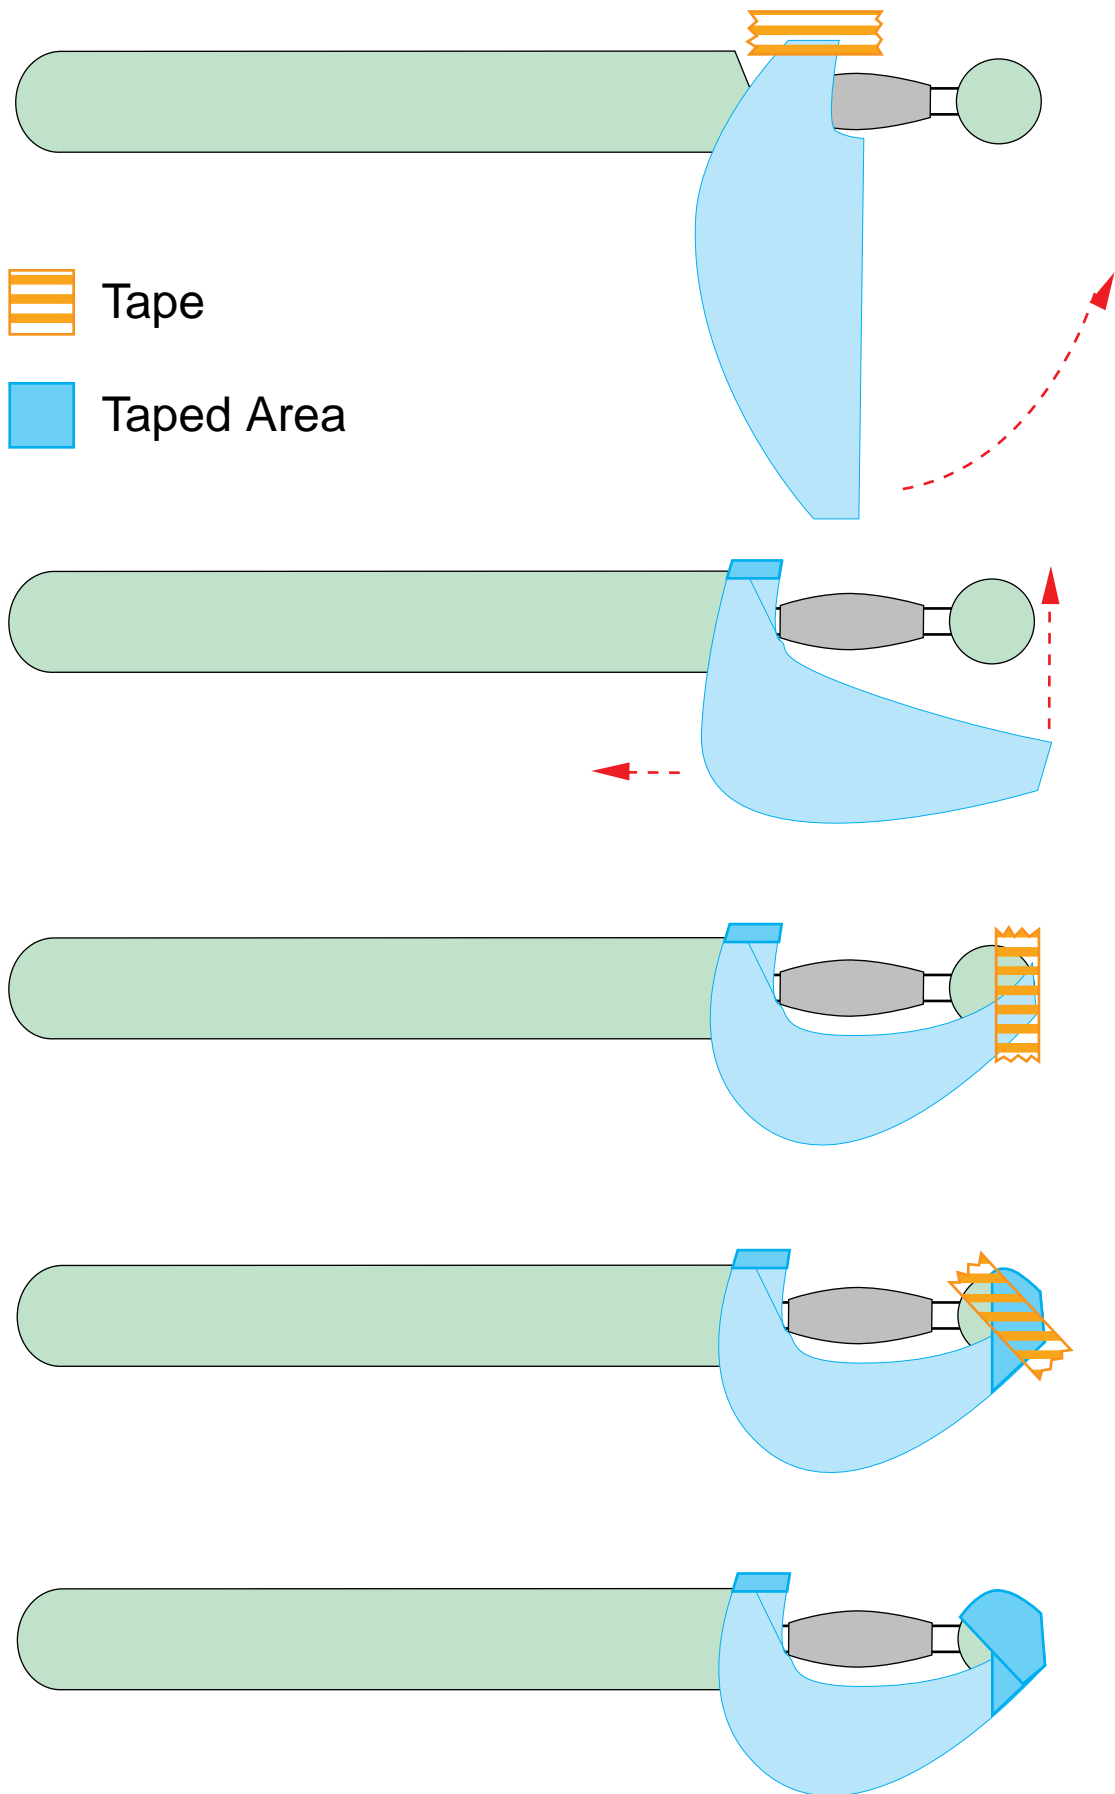
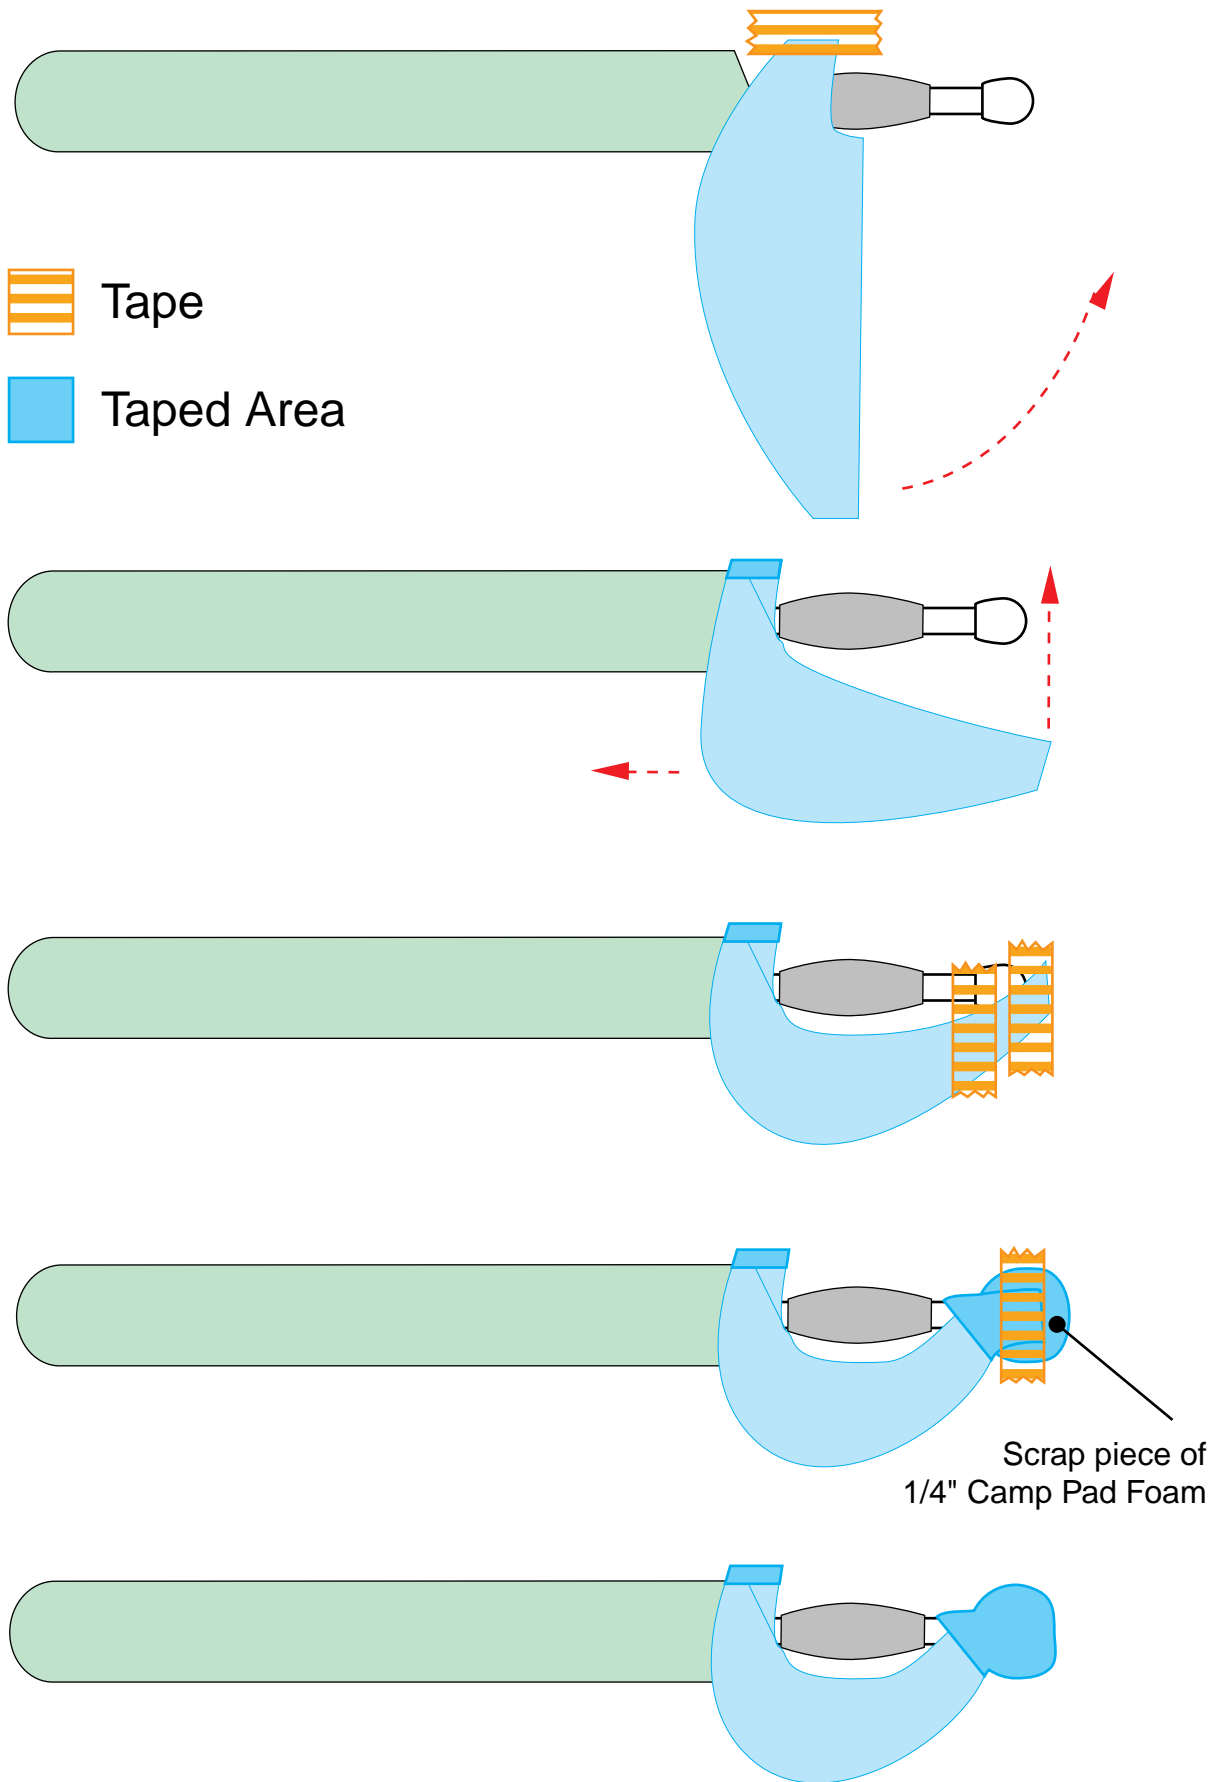

Figure 2: Attaching guard to weapon with pommel
Figure 3: Attaching guard to weapon without pommel
- 5) Push the sword handle, above the grip, into the notch at the top of the guard. The Guard should be folded towards the tip of the sword. (Fig. 2)
- 7) Push the guard against the 'blade' of the sword. The two halves of the guard should be against the sides of the 'blade'. (Fig. 2)
- 10) If you already have a pommel (ball at the bottom) on your sword, you can tape the guard directly to it. (Fig. 2). If you do not have a pommel attached, you may fold the end of the guard over the butt of the sword and then tape into place securely for a safe alternative to round pommels. (Fig. 3)